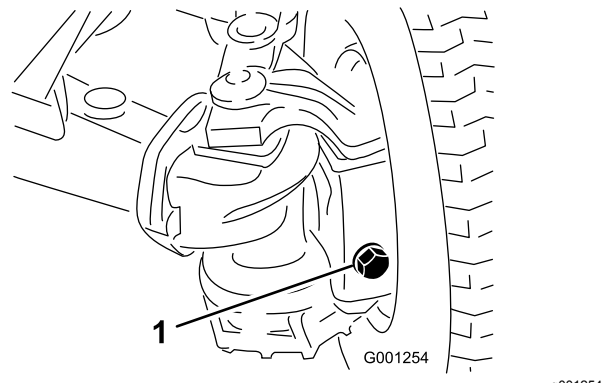
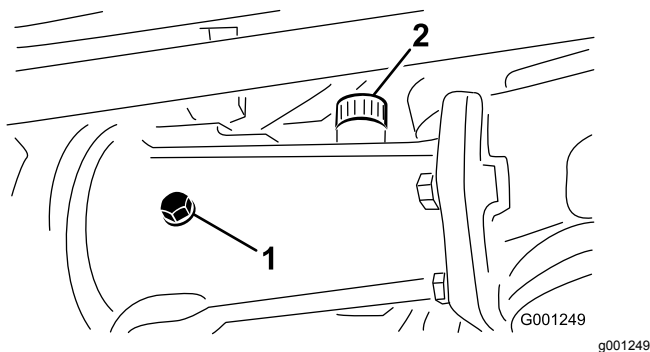

Figure 58
Figure 57
3. Check that there is lubricant up to the threads at the bottom of each plug hole (Figure 57 and Figure 58).
- A. If filling the center-axle housing, remove the fill plug (Figure 57).
- B. Add the specified rear-axle lubricant into the axle reservoir(s) until the lubricant level up to the bottom of the check-plug holes (Figure 57 and Figure 58).
- C. If removed from the center-axle housing, apply PTFE thread sealant to the threads of the fill plug and install it into the housing (Figure 57).
5. Apply PTFE thread sealant to the threads of the check plug from the center-axle housing and fill/check plugs from the 2 outboard-axle cases (Figure 57).
6. Install the check plug into the center-axle housing and fill/check plugs into the 2 outboard-axle cases (Figure 57 and Figure 58).
2. Remove the check plug from the center-axle housing and the axle and fill/check plugs at each outboard-axle case (Figure 57 and Figure 58).
1. Drain plug (3)
8. Apply PTFE thread sealant to the threads of the check plug from the center-axle housing and fill/check plugs from the 2 outboard-axle cases; refer to Figure 57 and Figure 58 in Checking the Rear Axle Lubricant \(page 51\).
9. Install the check plug into the center-axle housing and fill/check plugs into the 2 outboard-axle cases; refer to Figure 57 and Figure 58 in Checking the Rear Axle Lubricant \(page 51\).